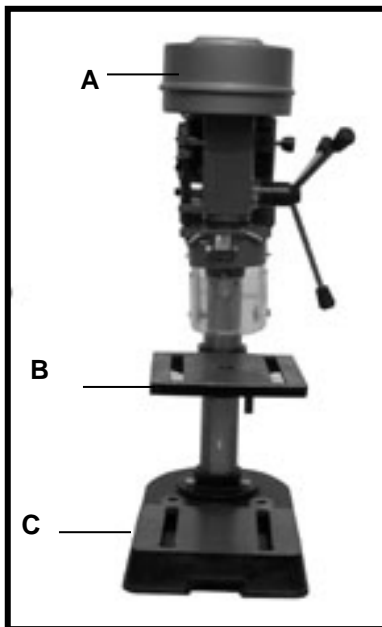

Fig. 4A
4. Insert the drill press head (F) on the column (A) as far as possible. Align the head (A) (fig. 4A) in relation to the table (B) and base (C). Tighten the 3 locking screws (G) with the supplied spanner.